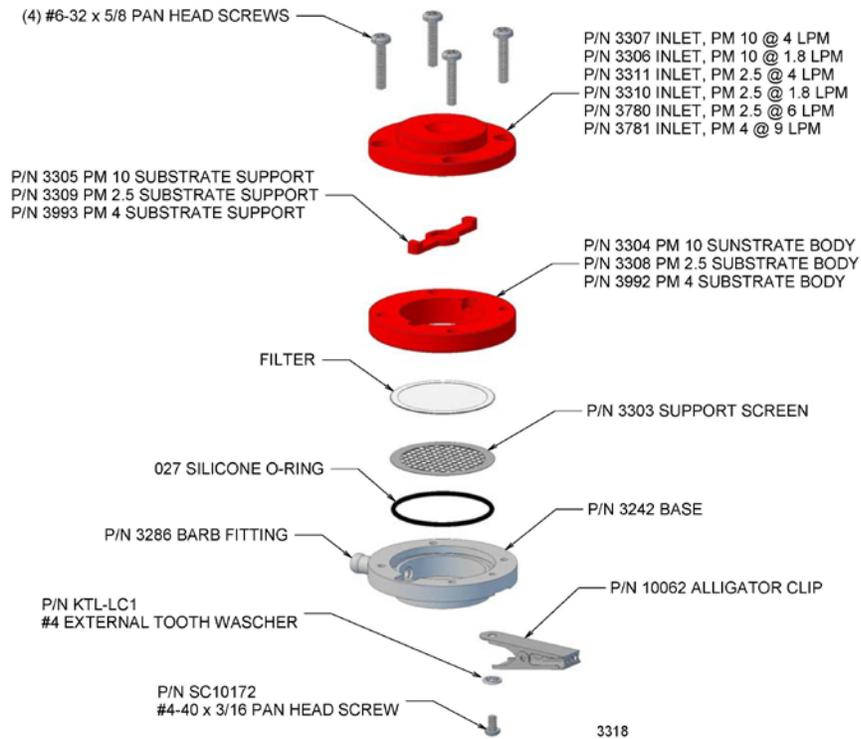

Figure 3. Exploded View of H-PEM
- b.) Pair up the H-PEM bases and tops. See Figure 3 for details of the components.